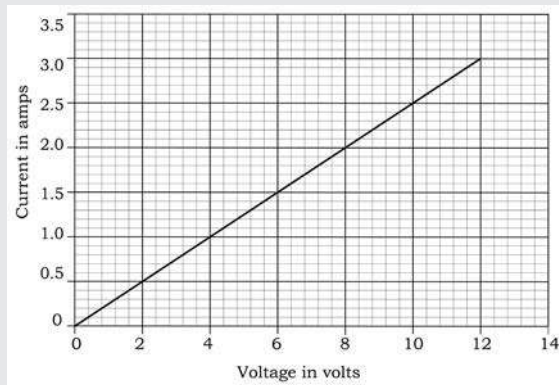

Fig. 2
10. The graph between voltage and current will be linear (Fig. 2), i.e., there will be proportionality in voltage and current. If the voltage increases due to any factor, then the current will also increase with the same value.